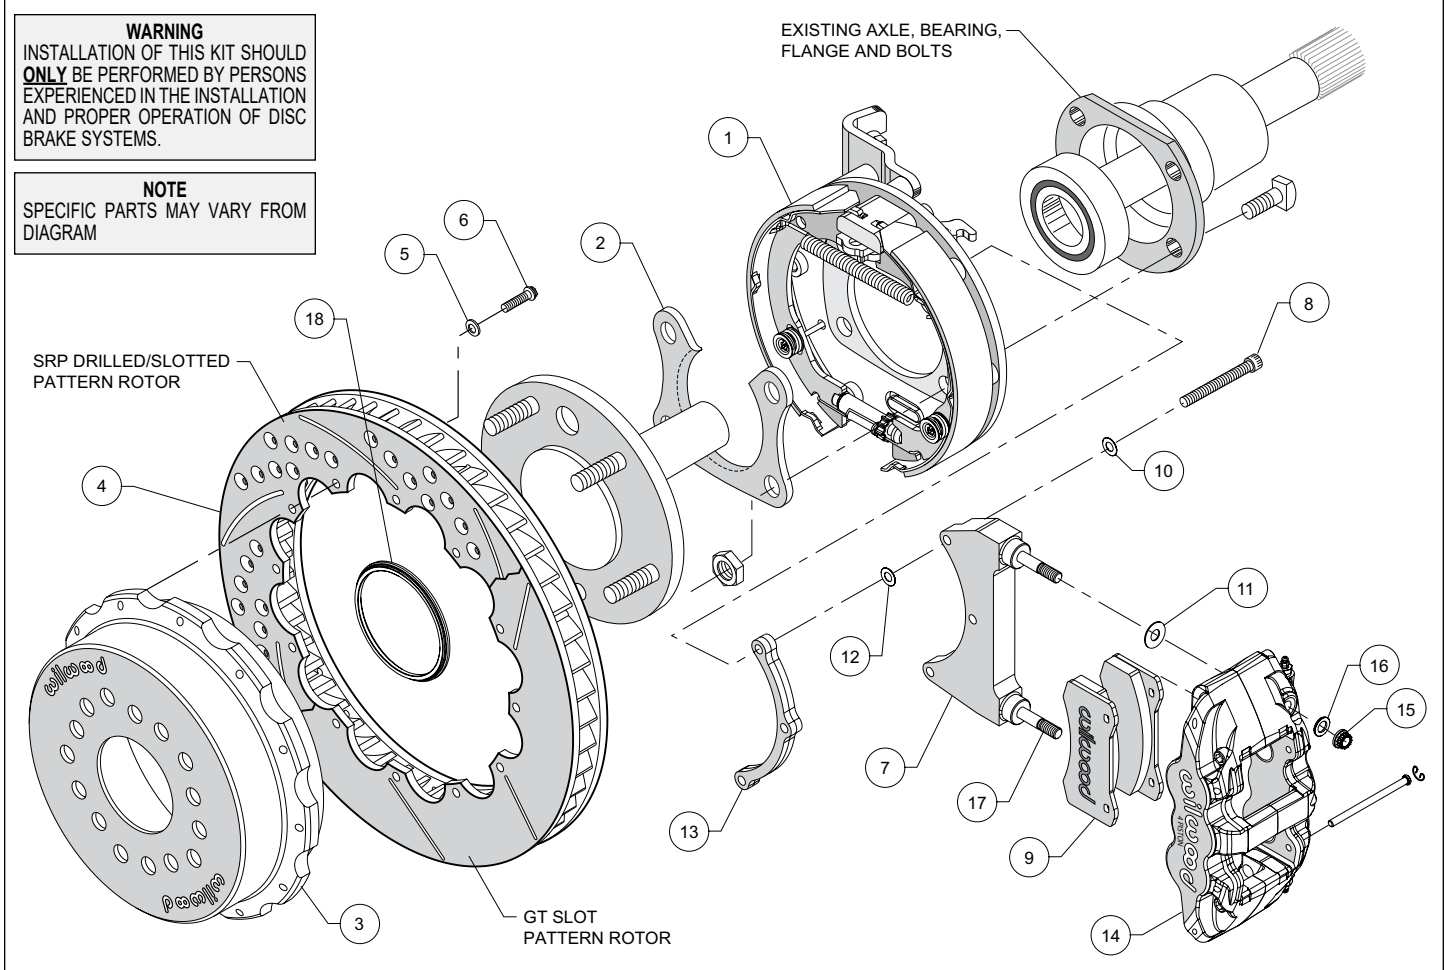

Figure 1. Typical Installation Configuration
- Orient the bracket assembly (1) as shown in Figure 1, and slide it onto the axle flange. Ensure that the bracket assembly backing plate fits flush against the housing flange. Insert the axle shaft into the axle housing.
- Install the bearing retainer (2) with the opening pointing upward and the lip facing inward (toward the bearing), as shown in Figures 1 and 4. Secure using the Original Equipment Manufacturer
(OEM) bolts and nuts, Figure 1. Apply red *Loctite*® 271 to the OEM bolt threads and torque to OEM specifications.
•**NOTE:** Please reference the caution statement at the beginning of the assembly instructions. The caliper mounting bracket assembly (7) should be installed first with clean, dry threads on the mounting bolts (8). Install the bracket from the rear side of the bracket kit assembly (1) by sliding bolt (8) through lock washer (9), flat washers (10 and 11) bracket (7), shim washer (12) and finally through the spacer (13), see Figure 1. **NOTE:** End of bolt should not exceed inside face of insert. The bracket must tighten squarely against the back side of the bracket kit assembly (1). Inspect for interference from casting irregularities, machining ridges, burrs, etc. Use one thin shim (12) between the bracket (7) and spacer (13) during initial trial fitting.
•Lubricate caliper mounting studs and nuts with lightweight oil. Install one shim (11) over each pre-installed stud (17) on the radial mount bracket (7). Slide the caliper (14) in place over the studs and rotor, then install the washer (16) and lock nut (15) to hold the caliper in place. The caliper bleed screws should be pointing up. Snug the lock nuts (15) and check that the rotor (4) is centered in the caliper (14). Add or subtract .015" shims (12) as necessary between the caliper mounting bracket (7) and the spacer (13) to center the caliper (14).
•Remove the two pad retaining pins from the caliper (14) by carefully popping out the pin retaining clips and sliding out the pins. Insert the brake pads (9) into the caliper from the bottom, Figure 1. With the friction material facing the rotor, secure the brake pads in place with the pad retaining pins and clips. Reinstall the caliper onto the caliper mounting bracket and temporarily tighten the lock nuts. Check that the top of the brake pad is flush with the outside diameter of the rotor. If not, adjust by adding or subtracting shims (11) between the caliper and the bracket.
•Adjust the parking brake shoes outward (using a drum shoe adjustment tool available at your local auto parts store) while spinning the hat (3) until a slight drag is felt against the hat/drum. Remove the lug nuts that were holding the hat/rotor in place. Install the wheel and lug nuts. Check to see that the wheel rotates freely without interference.
•Once all clearances have been checked, remove the wheel, caliper, hat/rotor from the bracket kit assembly (1). Secure the